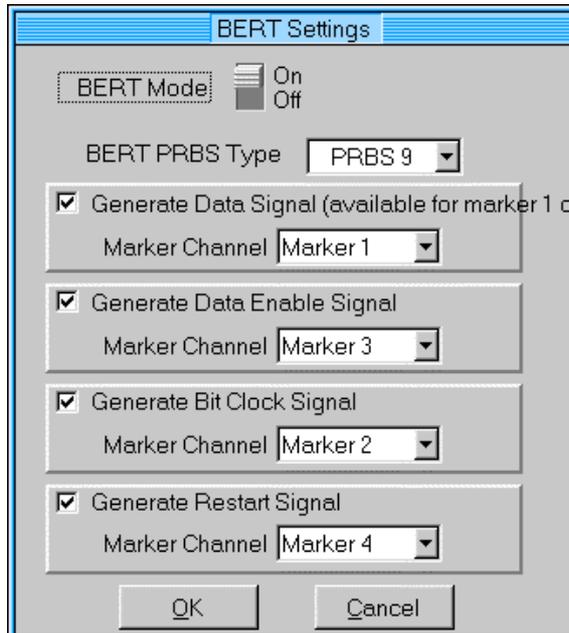

Figure 7: Data Source/Data Editor Bert Settings
- (3) From the BERT settings menu select BERT Mode On and the marker signals as in Figure 7